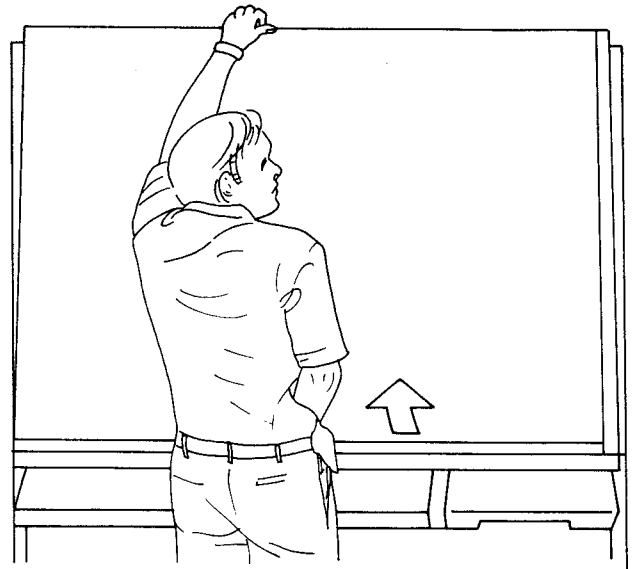

Figure 23
- (3) Remove the nine screws at the top of the board.
- (4) Pull out the bottom of a board unit. (Figure 23)
- (5) Hold the top and the bottom of the board at the board centre. While lifting the board a little, pull out the top, keeping the main body and the frame in parallel.